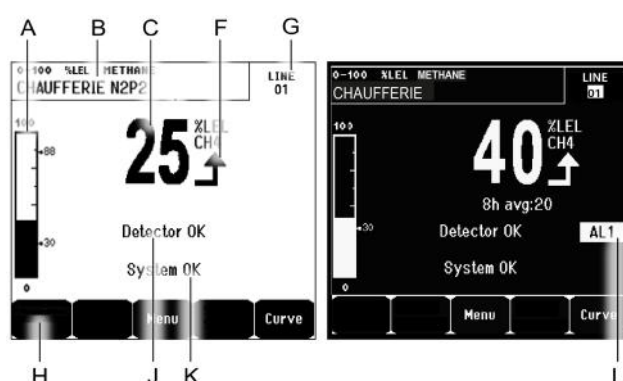

Figure 17: Example of the measurement display in normal mode and in grayscale mode
- L. Zone of indication of activated alarms with blinking threshold display. The screen changes to inverse video (Figure 17).